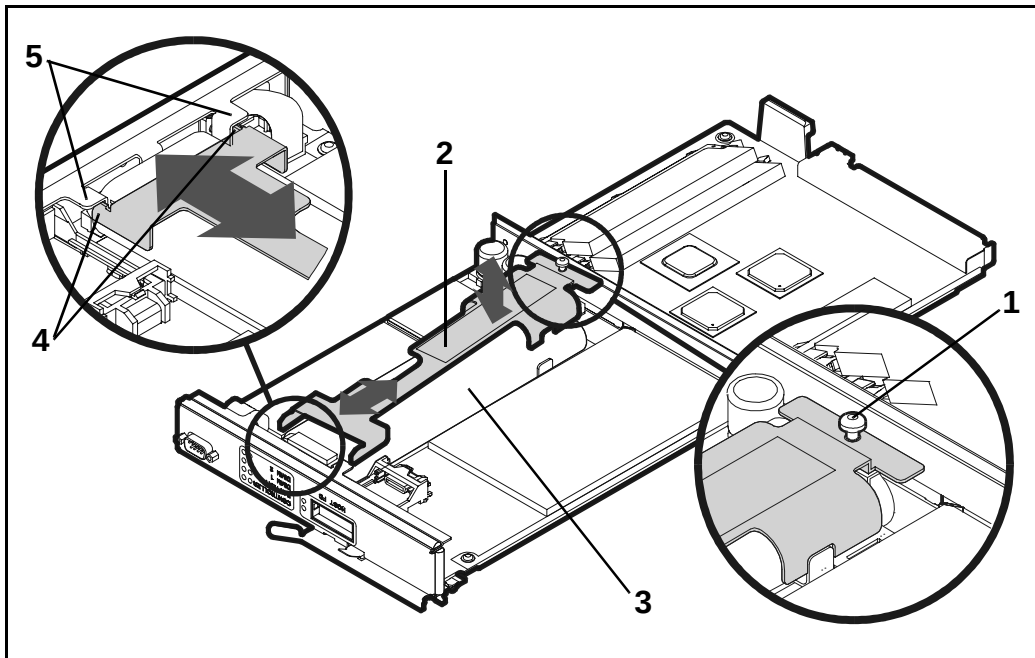

Figure 36 Removing & Replacing an Array Controller Battery
2. Loosen the battery clamp screw (Figure 36, 1) with a T-20 driver.
3. Lift the battery clamp (Figure 36, 2) off of the battery.
3. Place the battery clamp (Figure 36, 2) on the battery (3).
4. Slide the battery clamp forward so that the front tabs (Figure 36, 4) are positioned under the bulkhead tabs (5).
5. Tighten the battery clamp screw (Figure 36, 1) with a T-20 driver.